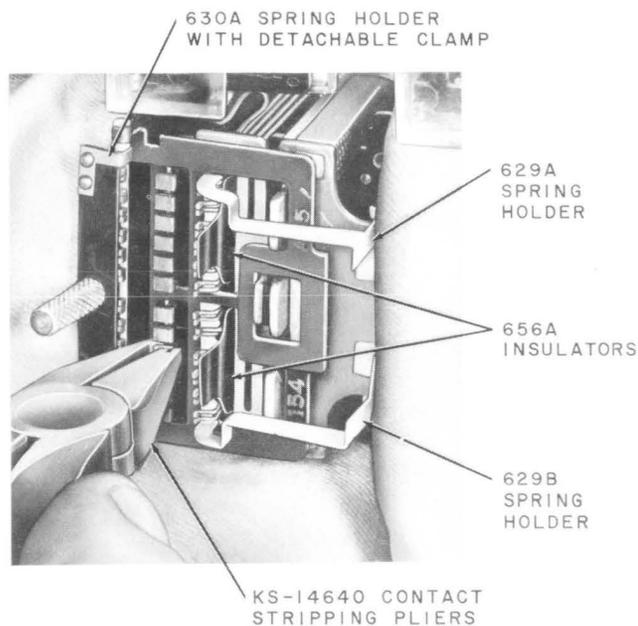

Fig. 2—Removing Contact From Fixed Spring
- (1) On these relays, insert a 656A insulator to prevent shorting of the movable break contact springs with the contact cover spring during replacement of fixed contacts. If the relay has break contacts in both the 1 through 6 and 7 through 12 position groups, use two insulators. If only one of these groups has break contacts, only one insulator is required.
- (2) To insert a 656A insulator, hold the tab of the insulator with the offset portion toward the contact cover spring. Insert the insulator between the contact cover spring and the movable break contact springs until the insulator touches the spoolhead. Figure 2 shows the insulators in position.
- (1) On these relays, spring holders are required to hold the break contact springs away from the fixed contacts during replacement of fixed contacts. The 629A spring holder is used for positions 7 through 12 and the 629B spring holder for positions 1 through 6. If the relay has break contacts in both the 1 through 6 and 7 through 12 position groups, use both spring holders. If only one of these groups has break contacts, only the spring holder for that group is required.
- (2) To insert the 629A or B spring holder, proceed as follows. Hold the spring holder in one hand and, with the other hand, push the card to the right to open the gap between the fixed and break contacts sufficiently to insert the holder. Insert the notched leg of the holder into the gap with the six notches in line with the six positions (1 through 6 or 7 through 12) on the relay. Swing the outer end of the holder to the right, engaging each pair of twin break contact springs in the proper notches. Move the holder to the right, and clip the holder on the core plate. Release the card, and make sure each pair of twin springs is engaged by the proper notch in the spring holder. Figure 2 shows both spring holders in position.
(3) After positioning the spring holder on the relay, place one end of the KS-6320 orange stick between the armature and adjacent edge of the card. Tilt the card inward with the orange stick so the card can be moved over the ends of the armature lugs. Then, with the orange stick, push the card inward against the core plate.
(4) Hold the clamp of the spring holder by the handle with the notch of the clamp pointing downward. Place the metal loop at the top of the clamp on the end of the spring holder that extends above the make contact springs. Move the clamp downward so that the notch in the bottom of the clamp engages the pin near the bottom of the spring holder. The clamp will hold the make contact springs in their proper notches in the spring holder.
(5) Using the 628A balancing spring lifter, place the outer end of the top leg of the balancing spring in the notch at the top of the spring holder. Similarly place the outer end of the bottom leg of the balancing spring in the notch at the bottom of the spring holder. Figure 2 shows the spring holder and clamp in position.